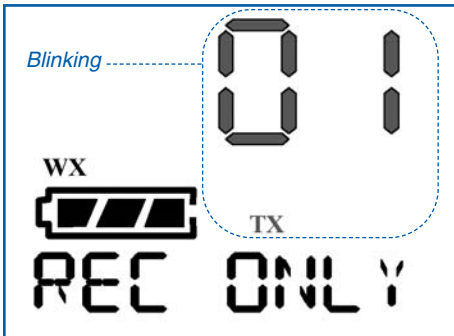

Fig. 8c: Message shown when trying to transmit on a receive-only channel
- You cannot transmit on receive-only channels like the weather channels or Channels 15 and 70. If you try, an error tone will sound, the channel number and **TX** indicator will blink three times and the Radio Status Display will show **REC ONLY** (Fig. 8c). After 3 seconds, the radio returns to the normal display, then goes back to the normal display.